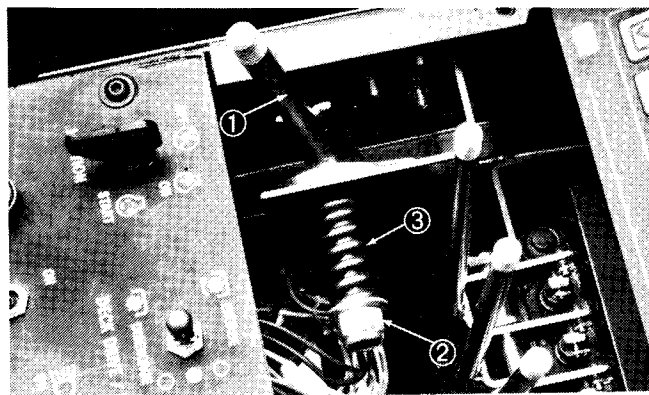

Figure 22
1. For proper throttle lever operation, tighten nut so length of spring is 1.75 ± 0.06 in. long (Fig. 22).